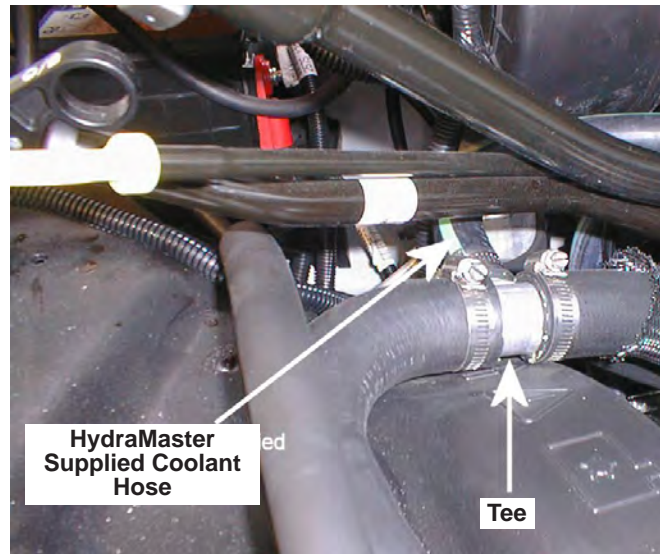

Figure 24. Cut Hose in Half and Install Tee
- c. Cut the hose in half and install the tee. The tee needs to be pointing up and slightly towards the front of the van (see Figure 24).